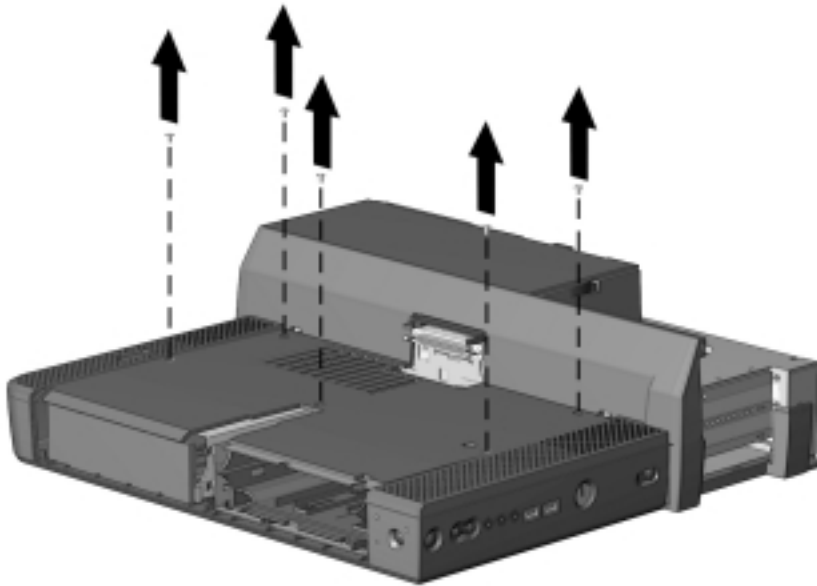

Figure 5-12. Removing the Top Cover Screws
5. Remove the five screws that secure the top cover to the base cover (Figure 5-12).